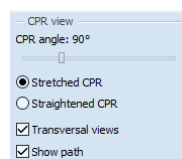

Figure 298 – CPR view settings
- To change the position of the transversal views along the curved plane, drag and drop yellow intersection line belonging to the central (B) transversal view.
- To show/hide CPR path, check/uncheck the **Show path** check box in the **CPR view** part in the **CPR tool** (see Figure 298).
- To change the current CPR projection, click **Stretched CPR** or **Straightened CPR** radio button in the **CPR view** part in the **CPR tool** (see Figure 298).
Transversal views can be hidden anytime by unchecking **Transversal views** check box in the in the **CPR view** part in the **CPR** tool (Figure 298).